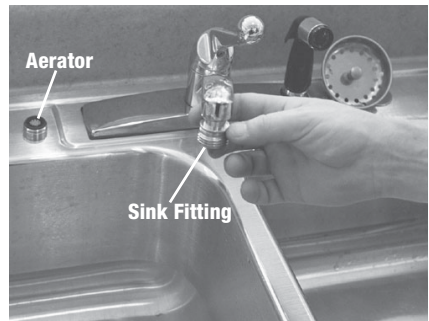

Figure 9: Attaching sink fitting to faucet
1. To install sink fittings, use your hand or a or a pair of pliers to remove the aerator from the faucet. Avoid using plastic faucets or spicketts. Then install the corresponding sink fitting on the faucet (fig. 9).